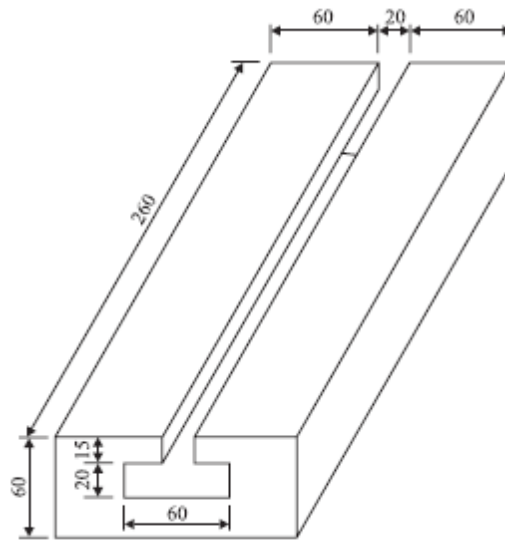

Fig. 5.27
- 7 A T-slot is to be cut in a C.I. slab as shown in Fig. 5.27. Analyze the machining time. BT4